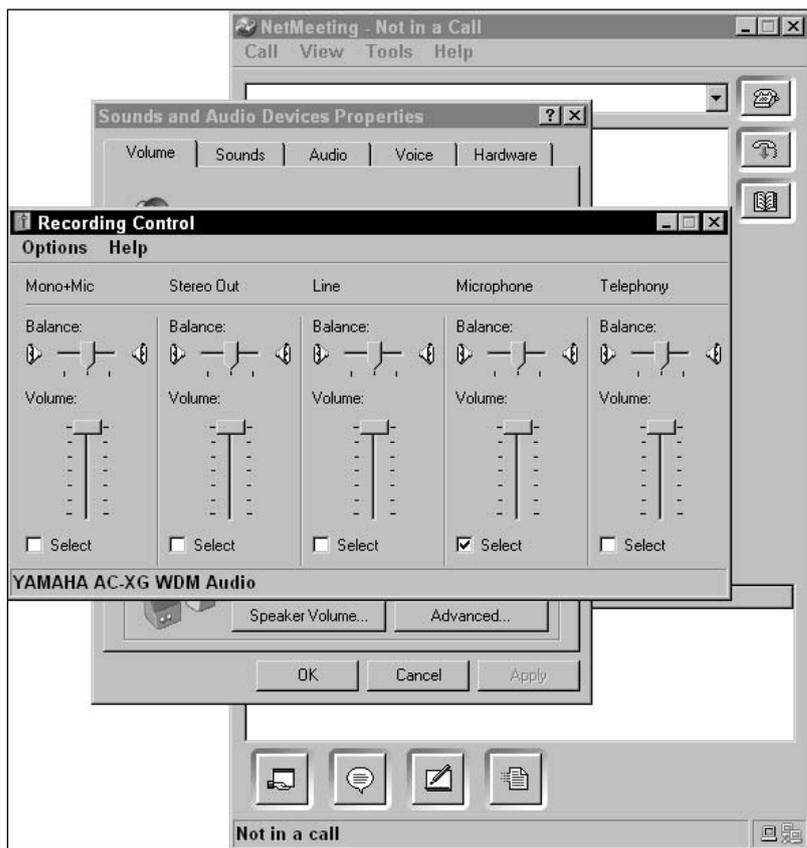

FIGURE 14-9: Recording Controls window with Microphone selected.
7. Click OK on the properties panel. The window displayed should now look something like Figure 14-9, the Recording Control window with several slider bars, including the Microphone control.
8. Ensure that Microphone shows a checkmark in the Select box (see Figure 14-9).
9. Ensure that the slider bar is at or near the top of the Volume control (see Figure 14-9).